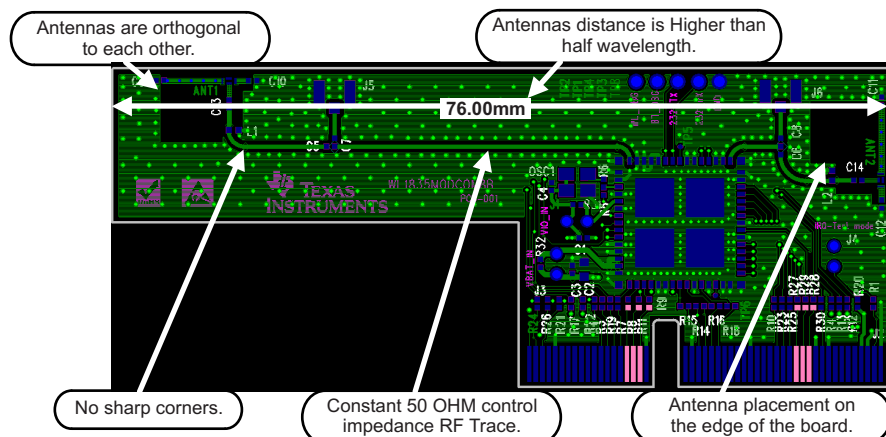

Figure 7-2. Location of Antenna and RF Trace Routing on the TMDXWL1835MODCOM8B Board
Figure 7-2 shows the location of the antenna on the WL1835MODCOM8B board as well as the RF trace routing from the (X)WL1835 module (TI reference design). The TDK chip multilayer antennas are mounted on the board with a specific layout and matching circuit for the radiation test conducted in FCC, CE, and IC certifications.